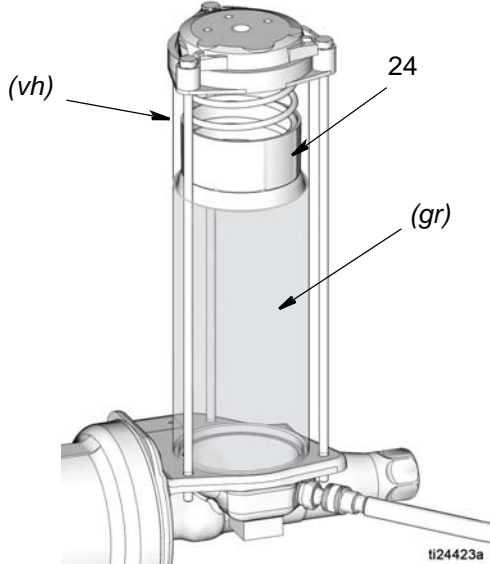

FIG. 5
3. Slowly dispense grease from the fill pump into the reservoir until the grease in the reservoir lifts the lower plate (24) above the reservoir vent hole(vh) and grease comes out of the vent hole(vh) and expels the air inside the reservoir (FIG. 5).
NOTE: The vent hole (vh) is located toward the back side of the reservoir and cannot be seen in FIG. 5. The approximate location of the vent hole is identified as *vh* in the illustration.